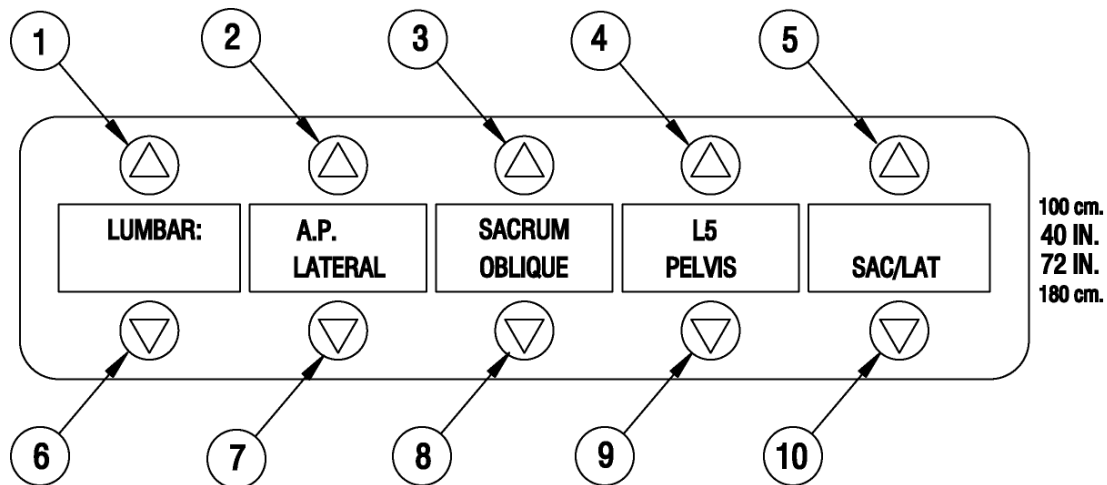

Figure 7-2 Anatomical View Selection Menu
3. Select the anatomical view for the particular region where the technique is located by pressing the associated sector key. To add a new anatomical view, (if a blank sector is available) press a blank sector key. For example, see Figure 7-2. To edit **LATERAL**, press sector key 7. To add a new anatomical view to the blank sector, press sector key 5.
4. To edit program press arrow keys marked 6 and 8 simultaneously. The selected Region of Interest (1) and Anatomical View (6) will be displayed (or blank for new view) in the main program edit menu as shown in Figure 7-2. Sector keys function as follows: